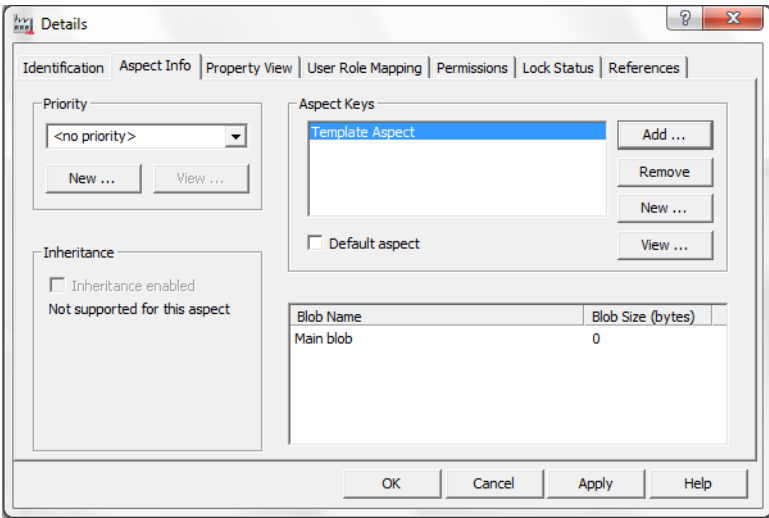

Figure 231. The Aspect Details Tab
7. Add a **Template Aspect** key and click **OK**, see Figure 231.